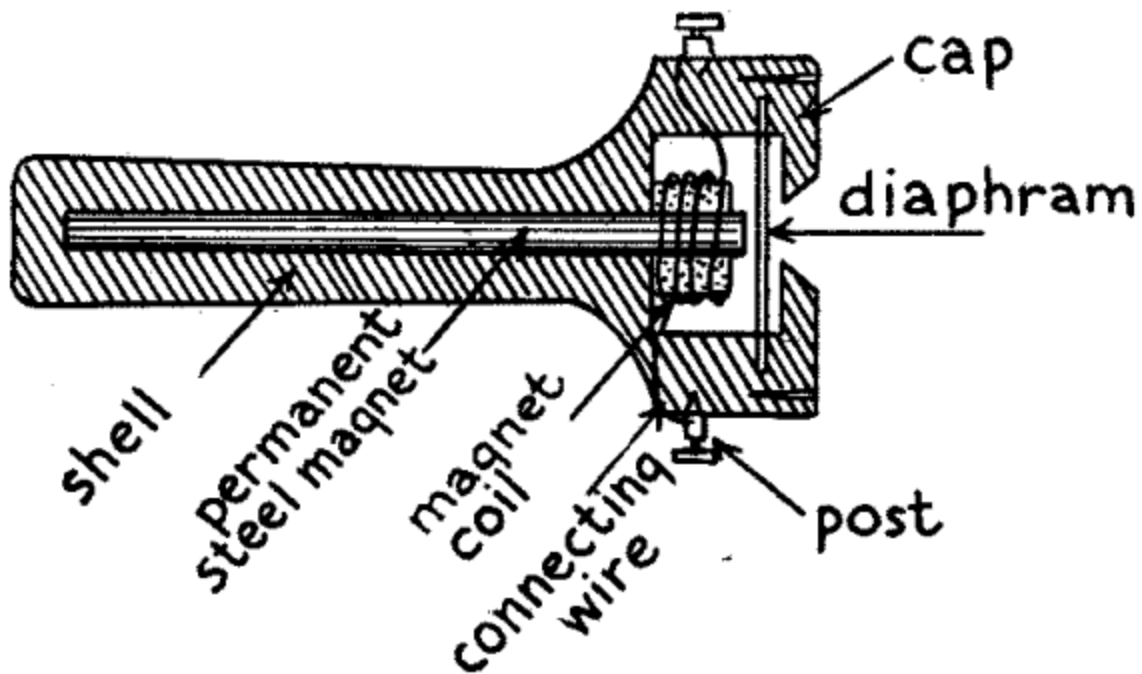

FIG. 62.—Cross-section of Bell Telephone Receiver.
How a Bell Telephone Receiver Is Made.--An ordinary telephone receiver consists of three chief parts and these are: (1) a hard-rubber, or composition, shell and cap, (2) a permanent steel bar magnet on one end of which is wound a coil of fine insulated copper wire, and (3) a soft iron disk, or *diaphragm*, all of which are shown in the cross-section in *Fig. 62*. The bar magnet is securely fixed inside of the handle so that the outside end comes to within about $\frac{1}{32}$ of an inch of the diaphragm when this is laid on top of the shell and the cap is screwed on.
How the Headphones Work.--As you will see from the cross-sections in Figs. 62 and 63 there is no connection, electrical or mechanical, between the diaphragm and the other parts of the receiver. Now when either feeble oscillations, which have been rectified by a detector, or small currents from a *B* battery, flow through the magnet coils the permanent steel magnet is energized to a greater extent than when no current is flowing through it. This added magnetic energy makes the magnet attract the diaphragm more than it would do by its own force. If, on the other hand, the current is cut off the pull of the magnet is lessened and as its attraction for the diaphragm is decreased the latter springs back to its original position. When varying currents flow through the coils the diaphragm vibrates accordingly and sends out sound waves.